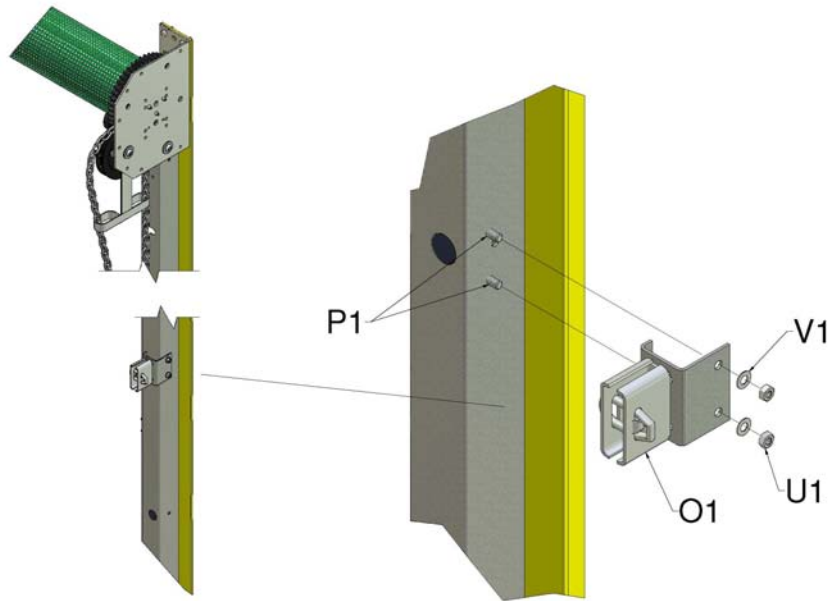

Figure 13, Attaching Chain Keep to Guide Rail
12. Install the chain keep and mounting bracket (O1) to the guide rail by drilling 2 No 8.5mm holes and using the M8x16 flanged bolts (P1). The height of the chain keep depends upon your installation (Figure 13), but is typically 1.5m high.